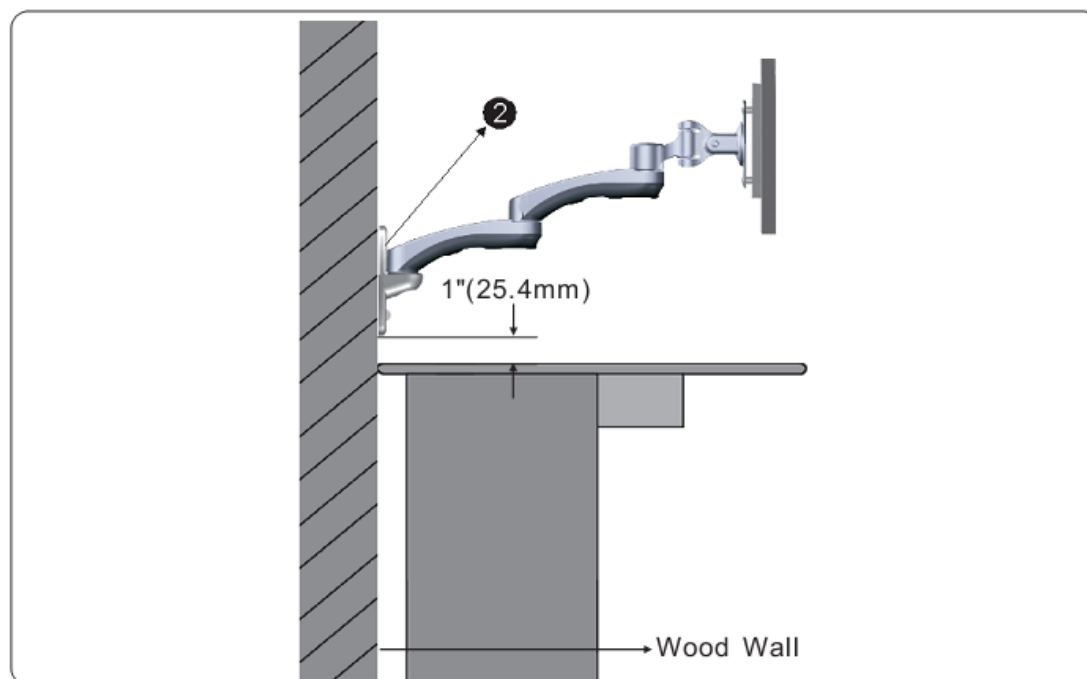

Figure 1-1
1. To determine Wall Plate **(2)** mounting height, add 1" (25.4mm) to the mounting height from the top of the table (**See Figure 1-1**).